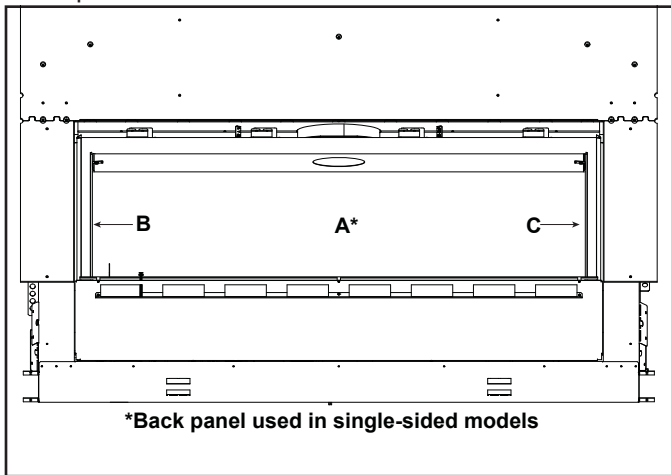

Figure 11.3 Placement of Glass Panels
1. Set back glass panel, labeled A in Figure 11.3, into firebox with the smooth side of the glass facing outward. Insert retaining bracket through the slot in the inner firebox heat shield. Line up the existing hole in the heat shield with the hole closest to the bend in the bracket and secure in place with a screw.
4. Install the left side panel, labeled "B" in Figure 11.3, by sliding it into place from the front. While installing, press the panel firmly against the firebox side.
1. Set left side glass panel, labeled B in Figure 11.3, into firebox with the smooth side facing outward.